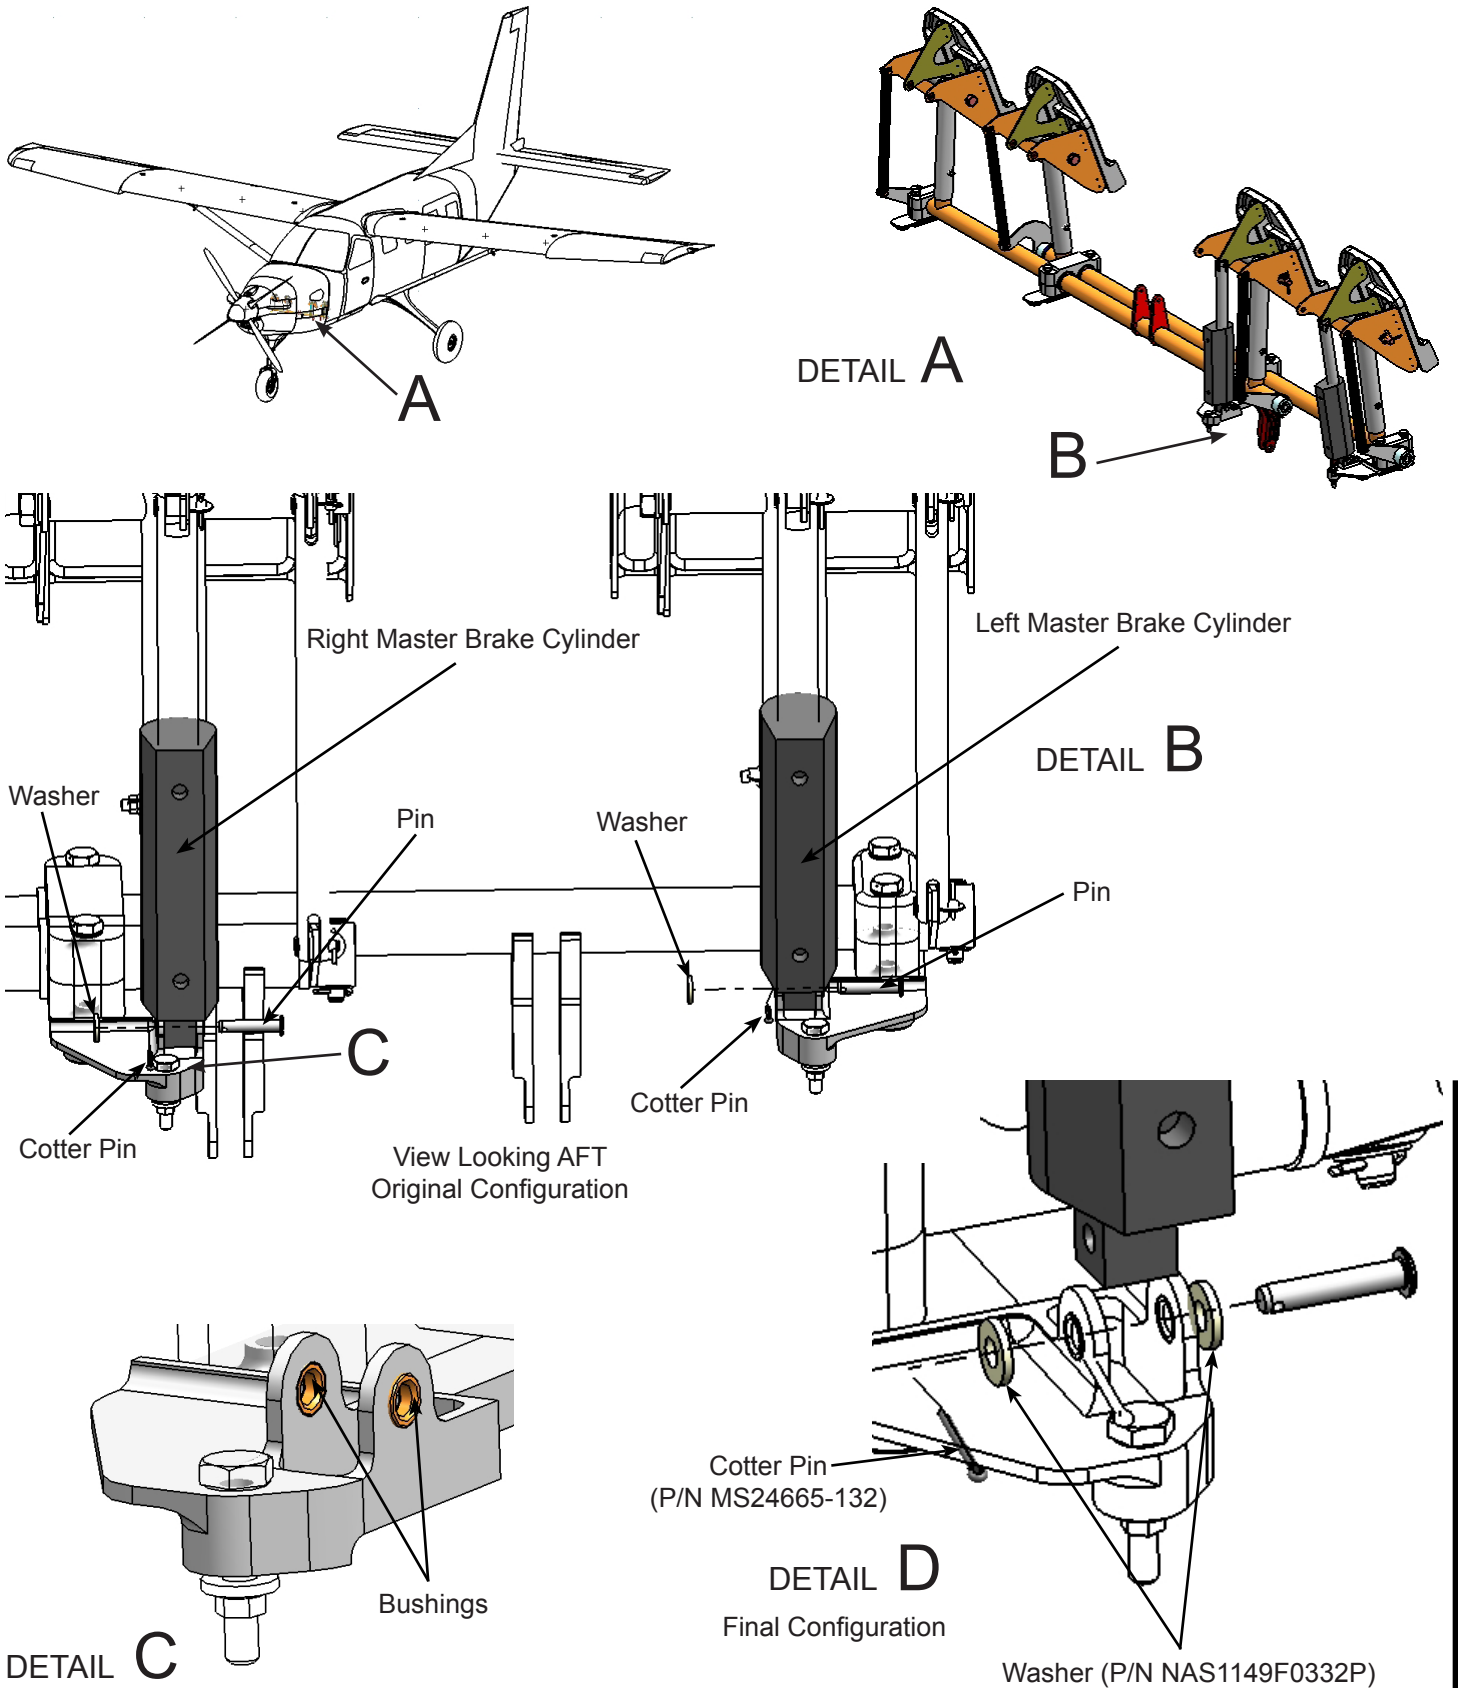

Figure 1-1: Master Brake Cylinder Inspection and Washer Installation
1. Remove the cotter pin (P/N **MS24665-132**) securing the pin (P/N **MS20392-2C27**) into position on both the right and left brake master cylinders as shown in **Figure 1-1, Detail B**.
2. Remove the two (2) pins (P/N **MS20392-2C27**) and two (2) washers (P/N **NAS1149F0363P**) from the aircraft. Discard the two (2) washers (P/N **NAS1149F0363P**) and retain the two (2) pins (P/N **MS20392-2C27**) for use in **Section 2**.
5. Verify the bushings are secure in both the left hand brake master support bracket (P/N **100-617-0015**) and the right hand brake master support bracket (P/N **100-617-0034**) as shown in **Figure 1-1, Detail C**.
1. Position and secure the left brake master cylinder (P/N **CM2000-1**) using the pin (P/N **MS20392-2C27**), two (2) washers (P/N **NAS1149F0332P**), and a cotter pin (P/N **MS24665-132**) as shown in **Figure 1-1, Detail D**.
2. Position and secure the right brake master cylinder (P/N **CM2000-1**) using the pin (P/N **MS20392-2C27**), two (2) washers (P/N **NAS1149F0332P**), and a cotter pin (P/N **MS24665-132**) as shown in **Figure 1-1, Detail D**.